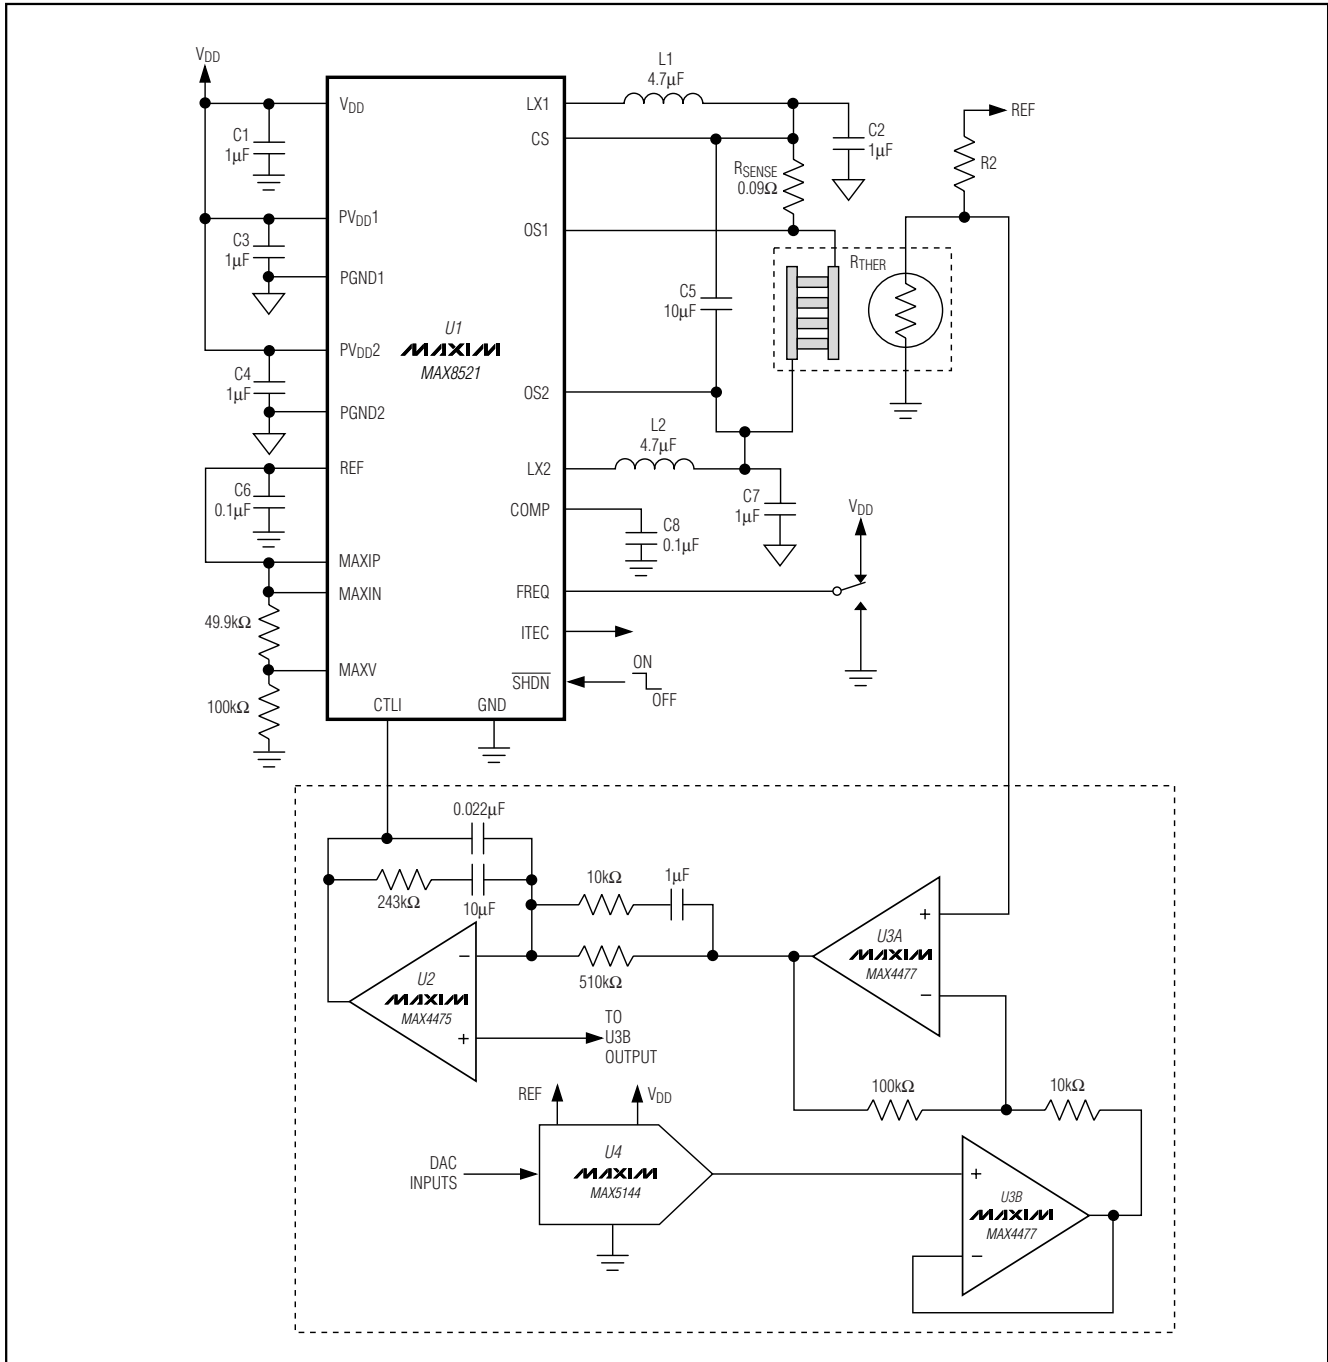

Figure 1. MAX8521 Typical Application Circuit
($V_{DD} = 5V$, circuit of Figure 1, $T_A = +25^{\circ}C$, unless otherwise noted)
($V_{DD} = 5V$, circuit of Figure 1, $T_A = +25^\circ C$, unless otherwise noted)
($V_{DD} = 5V$, circuit of Figure 1, $T_A = +25^\circ C$ unless otherwise noted)
(V_{DD} = 5V, circuit of Figure 1, T_A = +25°C unless otherwise noted)
The MAX8520/MAX8521 TEC drivers consist of two switching buck regulators that operate together to directly control the TEC current. This configuration creates a differential voltage across the TEC, allowing bidirectional TEC current for controlled cooling and heating. Controlled cooling and heating allow accurate TEC temperature control to within $\pm 0.01^\circ\text{C}$. The voltage at CTLI directly sets the TEC current. An external thermal-control loop is typically used to drive CTLI. Figures 1 and 2 show examples of the thermal control-loop circuit.
Table 1. TEC Connection for Figure 1
The MAX8520/MAX8521 include an on-chip voltage reference. The 1.50V reference is accurate to 1% over temperature. Bypass REF with 0.1 μF to GND. REF can be used to bias an external thermistor for temperature sensing as shown in Figures 1 and 2.
The common-mode filter capacitors (C2 and C7 of Figure 1) are used as filter capacitors to ground for each output. The output ripple voltage depends on the capacitance, the ESR of these capacitors, and the inductor ripple current. Ceramic capacitors are recommended for their low ESR and impedance at high frequency.
The differential-mode filter capacitor (C5 in Figure 1) is used to bypass differential ripple current through the TEC as the result of unequal duty cycle of each output. This happens when the TEC current is not at zero. As TEC current increases from zero, both outputs move away from the 50% duty-cycle point complementarily. The common-mode ripple decreases, but the differential ripple does not cancel perfectly, and there is a resulting differential ripple. The maximum value happens when one output is at 75% duty cycle and the other is at 25% duty cycle. At this operating point, the differential ripple is equal to 1/2 of the maximum common-mode ripple. The TEC ripple current determines the TEC performance, because the maximum temperature differential that can be created between the terminals of the TEC depends on the ratio of ripple current and DC current. The lower the ripple current, the closer to the ideal maximum. The differential-mode capacitor provides a low-impedance path for the ripple current to flow, so that the TEC ripple current is greatly reduced. The TEC ripple current can then be calculated as follows:
There are numerous ways to implement the thermal loop. Figures 1 and 2 show designs that employ precision op amps, along with a DAC or potentiometer to set the control temperature. The loop may also be implemented digitally, using a precision A/D to read the thermistor or other temperature sensor, a microcontroller to implement the control algorithm, and a DAC (or filtered-PWM signal) to send the appropriate signal to the MAX8520/MAX8521 CTLI input. Regardless of the form taken by the thermal-control circuitry, all designs are similar in that they read temperature, compare it to a set-point signal, and then send an error-correcting signal to the MAX8520/MAX8521 that moves the temperature in the appropriate direction.
6) To ensure high DC loop gain and minimum loop error, keep the board layout adjacent to the negative input pin of the integrator (U2 in Figure1) clean and free of moisture. Any contamination or leakage current into this node can act to lower the DC gain of the integrator, which can degrade the accuracy of the thermal loop. If space is available, it can also be helpful to surround the negative input node of the integrator with a grounded guard ring.